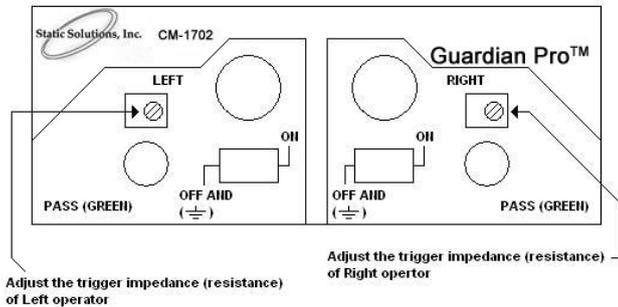

FIGURE 2.
Preset impedance: This equipment screw can be turned and adjusted to another capacitance value (FIGURE 2.) according to the weight or height of the user and the operation conditions.
A 5 Meg Ohm (original setting) was used as an adjustment in case the user's monitor is out of specification. To re-calibrate or check on the accuracy, connect a 5meg ohm resistor between the ground and banana jack for wrist strap, then turn the knob in Figure 2 until the LED "JUST" changes from flashing red to green or green to flashing red. A different resistance values may be used.
4. The impedance setting is not adjusted correctly to the user due to the weight or height of the operator. To adjust the monitor to the operator turn the impedance setting pot inside the rectangular hole in the front panel (FIGURE 2.) in order to lower or increase the sensitivity.
1. The sensitivity of the impedance is too low you .To correct turn the impedance setting pot inside the rectangular hole in the front panel (FIGURE 2.) to a higher sensitivity.